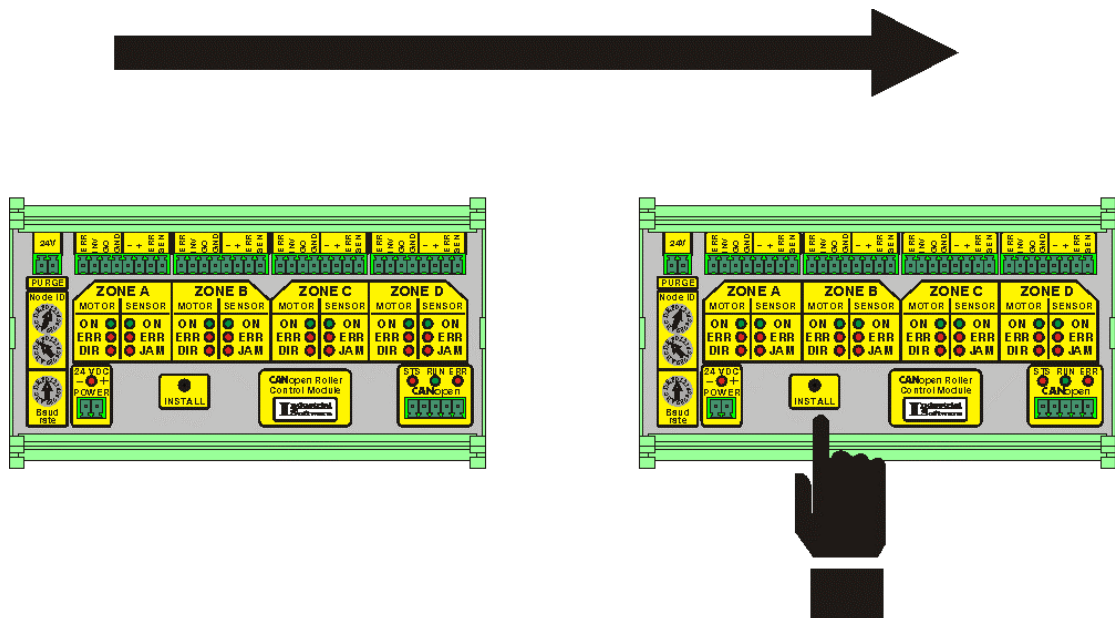

Fig. 5.15
- Then you may go downstream of the conveyor and press the **Install Button** of the next downstream module - Fig. 5.15.